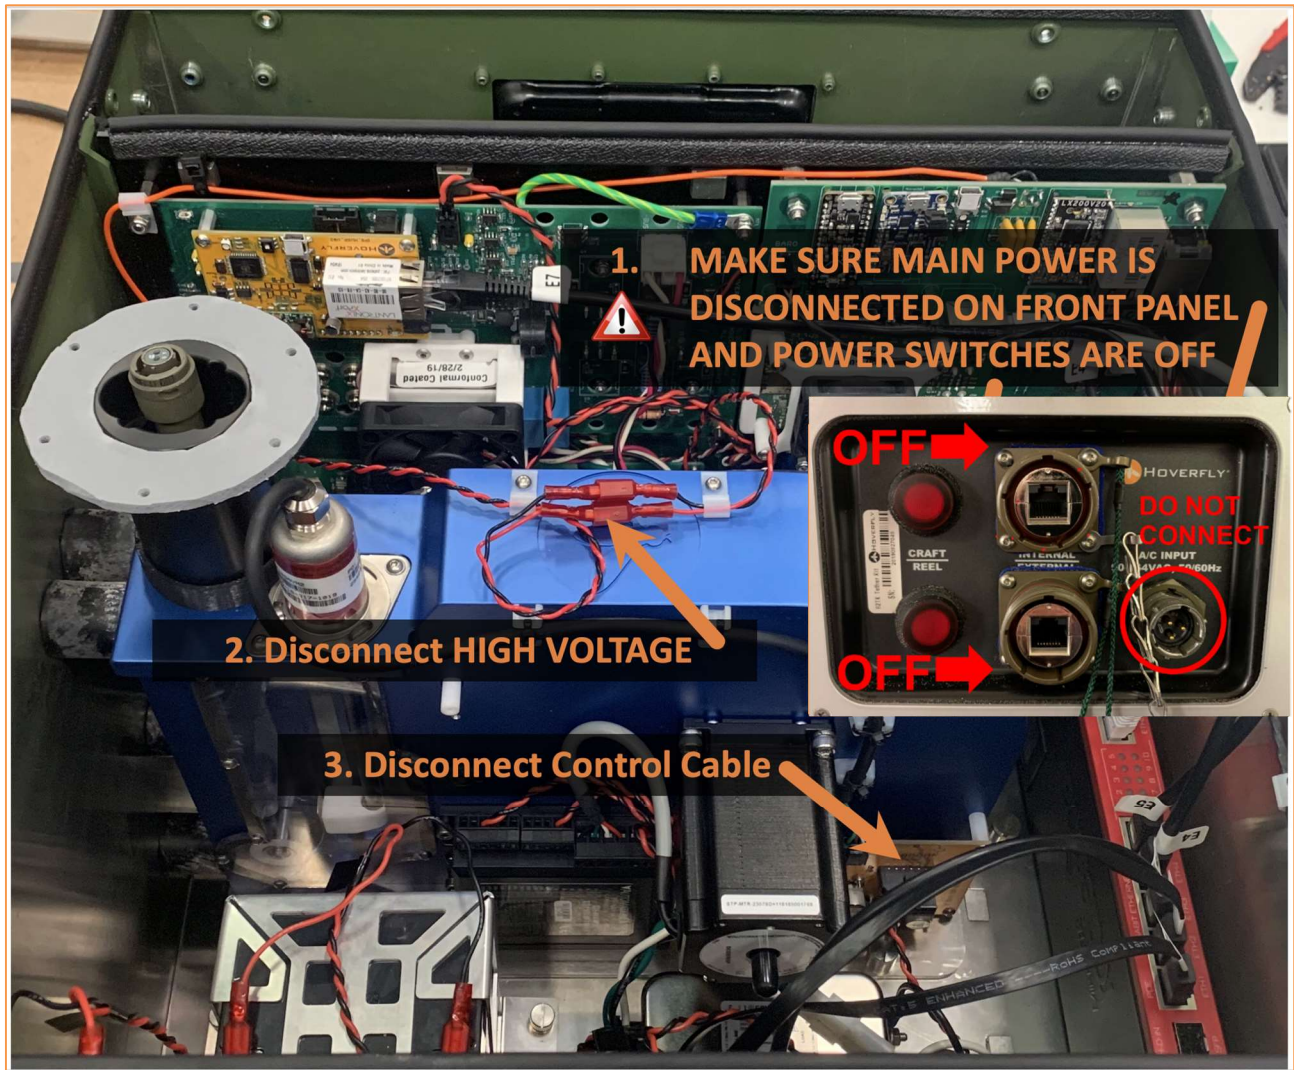

Figure 42. Fasteners on Tether Reel Assembly
To remove and replace the Tether Reel, first there are three (3) electrical connections that must be released before the Tether Reel assembly can be removed. These are the HIGH VOLTAGE connection on the top of the Tether Reel, Tether Reel power connector, and the Reel Dehumidifier shown in Figure 42.